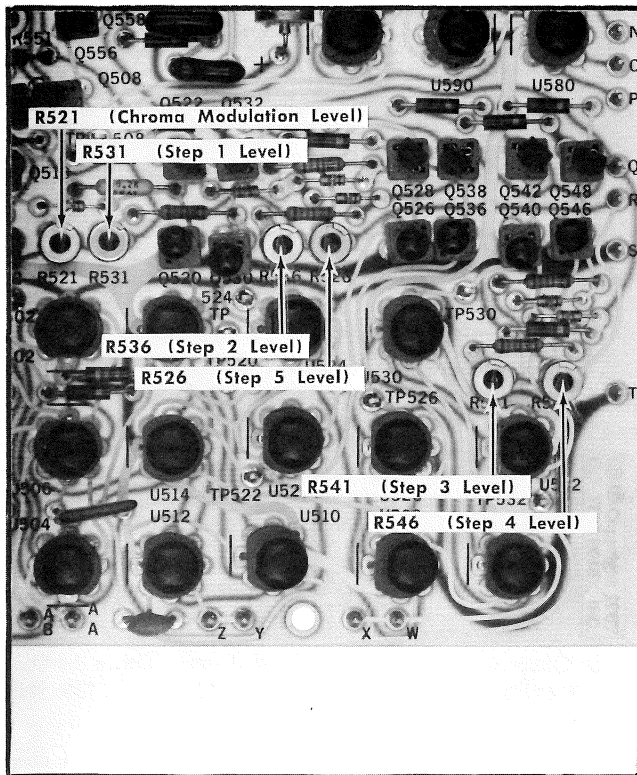

Fig. 5-31. Staircase board adjustment locations.
ae. ADJUST—Step 1 Level control, R531, (see Fig. 5-31) until the first step aligns with the blanking level as shown in Fig. 5-30B.
l. ADJUST—Chroma Modulation Level control, R521 (see Fig. 5-31) until the top of the bottom display coincides with the bottom of the top display.